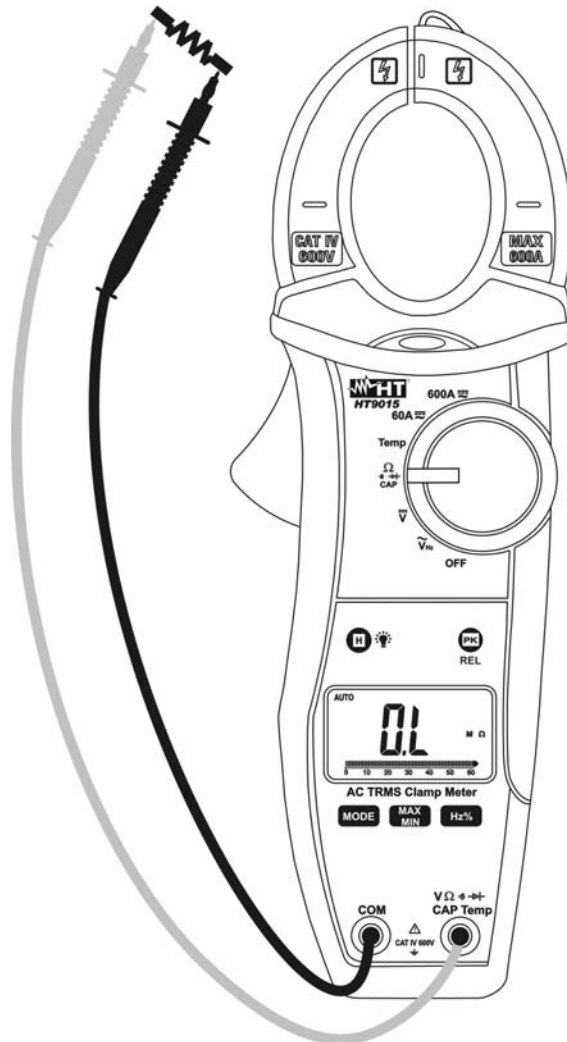

Fig. 5: Taking Resistance measurement
2. Insert the red test lead plug into  $V\Omega$   $\rightarrow$  **CAPHz%**Temp jack and the black test lead plug into **COM** jack (Fig. 5)